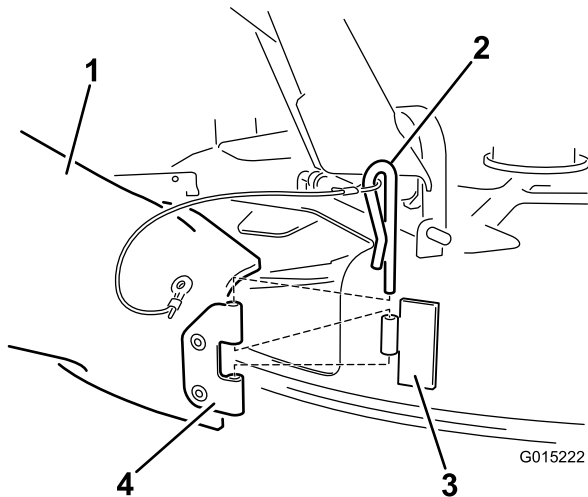

Figure 21
4. Locate the chute in the loose parts. Align the holes in the hinge on the chute with the hinge on the deck (Figure 21).